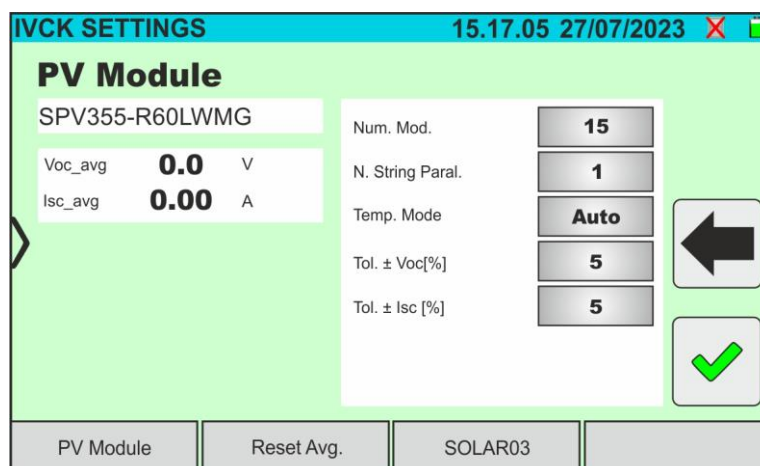

Fig. 49: IVCK test parameter settings
6. Tap on the **"Settings"** key (Monofacial module reference). The following screen is shown in Fig. 49. The following parameters are given: